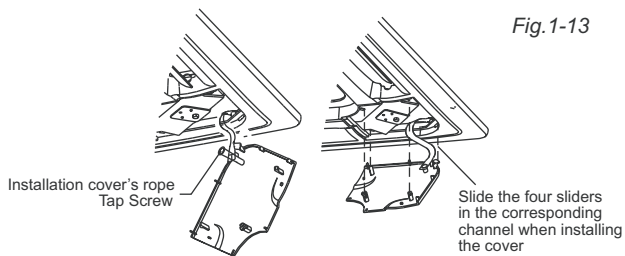

Fig. 1-14
- Fasten the rope of installation cover on the bolt of the installation cover. (Refer to Fig.1-14)
- Press the installation cover into the panel slightly. (Refer to Fig.1-14)